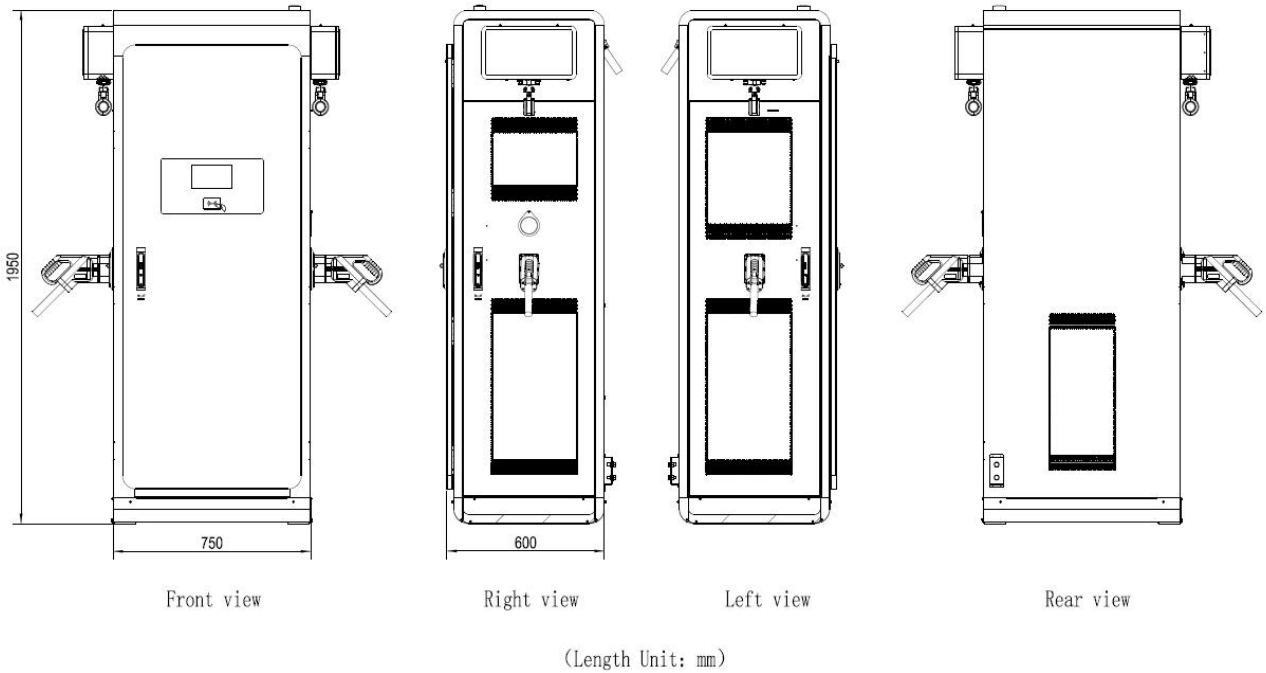

Figure 1: Appearance and dimensions
3.1.1 Appearance and dimensions, as shown in Figure 1.